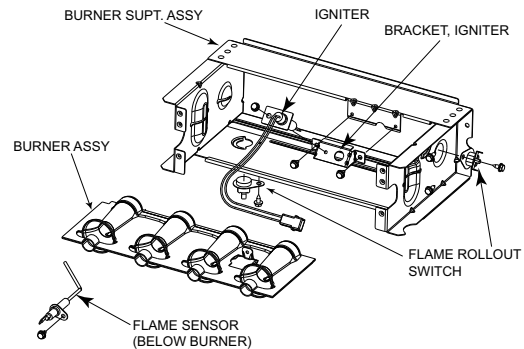
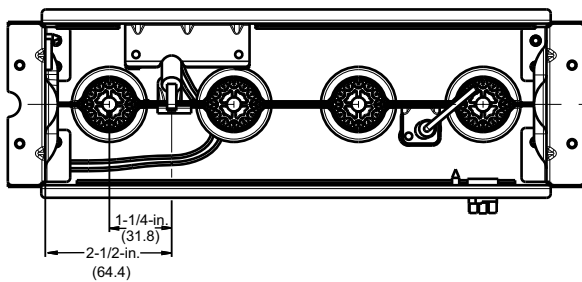
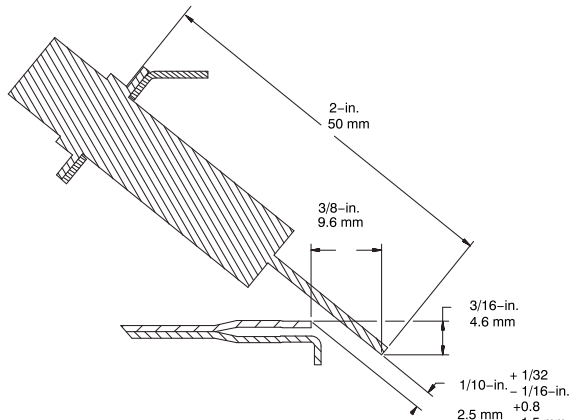

Fig. 66 – Burner Assembly
Fig. 67 – Igniter Position - Top View
Fig. 68 – Igniter Position - Side View
Refer to Fig. 66.
8. Check the igniter alignment. See Fig. 67, Fig. 68 and Fig. 66.
The igniter does **NOT** require annual inspection. Check igniter resistance before removal. Refer to Fig. 67, Fig. 68 and Fig. 66.
- a. Using a 1/4-in. driver, remove the two screws securing the igniter mounting bracket to the burner assembly See Fig. 66.
6. To replace igniter and bracket assembly, reverse items 5a through 5d.
7. Reconnect igniter harness to the igniter, dressing the igniter wires to ensure there is no tension on the igniter itself. See Fig. 66.